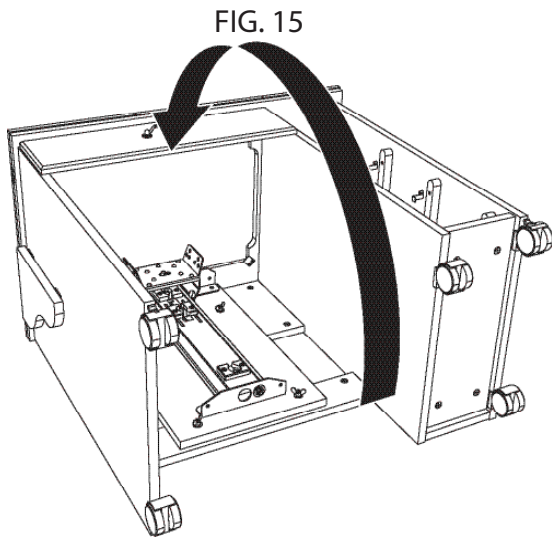

FIG. 15
Step 15. Once Top Assembly (A, B, C) is on securely, with 2 people CAREFULLY flip the cabinet on its back, as shown in FIG. 15.